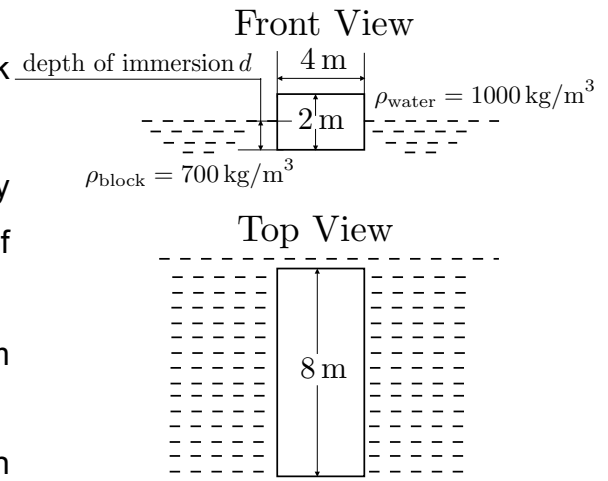

Figure 4: A Rectangular Block in Water
<p>Solution to Q. 7</p>	<p>Figure 4 shows the forces acting on the windshield with the information necessary to help resolve the forces along the X- and Y-axis.</p>  <p>(a) The horizontal component of the shear force acting on the windshield is $40 \cos 45^\circ \text{ N} \approx 28.3 \text{ N}$. In vector notation we write it as $70.7\hat{i}$.</p> <p>(b) The vertical component of the pressure force in vector notation is $-100 \sin 45^\circ \hat{j} \approx -70.7\hat{j}$.</p> <p>(c) The forces in vector notation are: $\vec{F}_{\text{drag}} = (70.7 + 28.3)\hat{i} = 99\hat{i}$, $\vec{F}_{\text{lift}} = (-70.7 + 28.3)\hat{j} = -42.4\hat{j}$, $\vec{F}_{\text{resultant}} = 99\hat{i} - 42.4\hat{j}$. The magnitudes of these forces are $\vec{F}_{\text{drag}} = 99 \text{ N}$, $\vec{F}_{\text{lift}} = 42.4 \text{ N}$ and $\vec{F}_{\text{resultant}} = \sqrt{99^2 + (-42.4)^2} \approx 107.7 \text{ N}$. The directions of these forces are as follows. The drag force acts along the X-axis in the positive direction, the lift force acts along the Y-axis in the negative direction, and the resultant force acts at an angle $\tan^{-1}\left(-\frac{42.4}{99}\right) \approx -23.2^\circ$ with respect to the X-axis.</p> <p style="text-align: center;">Figure 4: The Forces Acting on the Windshield of the Car</p>
Scheme of Marking	◆ A sketch that may not be as detailed as Figure 4 but something to show that the student is considering angles and resolving forces - 1 M ◆ Each quantity - 1 M
7. Figure 4 shows a rectangular block in water.